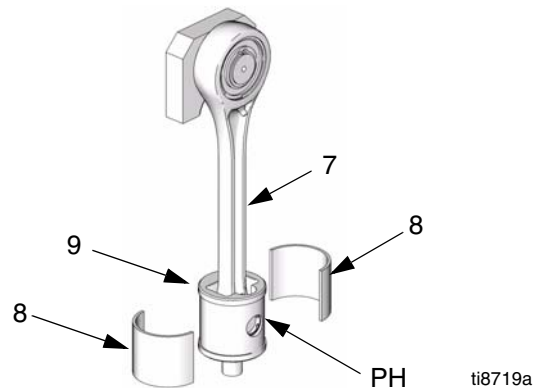

FIG. 6. Slider Bearings
4. See FIG. 6. Install the two bearings (8) on the slider piston (9). The joints between the bearings must align with the pin hole (PH) in the slider piston.